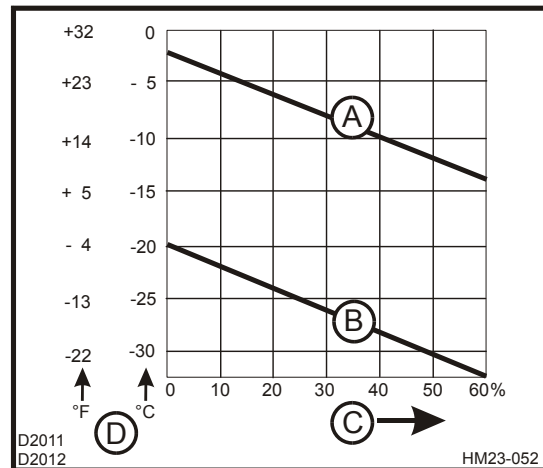

Fig. 36 Table for the addition of petroleum or additives
- If only summer diesel is available, or if winter diesel must be used at very low temperatures, we recommend the addition of petroleum (fig. 36) or additives. These mixtures should only be used temporarily, **never for longer periods**.